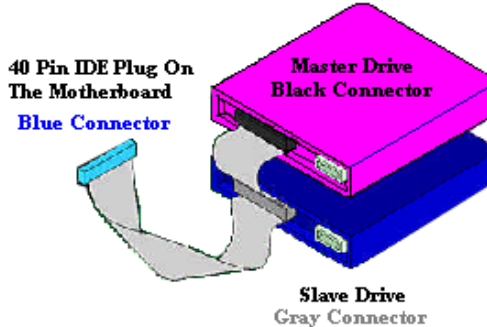

Figure 2-10. How to connect an ATA/66 Cable to the Motherboard
- Attach the BLACK connector to the mating plug on the master hard drive. Attach the GREY connector to the mating plug on the slave drive (secondary hard drive, CD-ROM, or tape drive). Please refer figure 2-10.